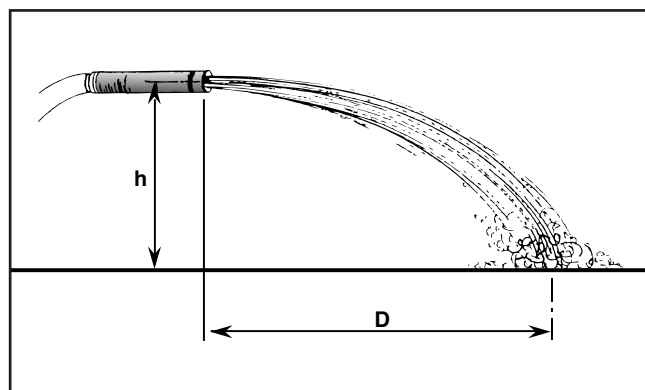

Figure C1 — Relation of pipe exit to “h” and “D”
D. Measure the distance (“D”) along the ground from the end of the pipe to where the water hits the ground. At the time of the measurement, the hose must be running full of water. Let a plumb bob hang from the pipe exit down to the ground. Start measuring “D” at this point. (See figure C1.)